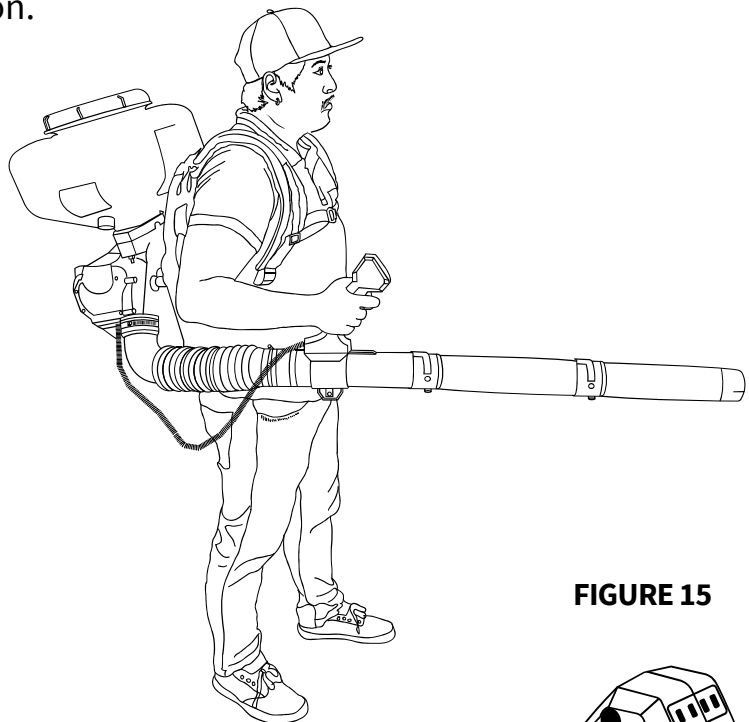

FIGURE 15
7.1.4 This tool operates with a gravity fed tank. The nozzle should always be angled downward or parallel with the ground. **FIGURE 15.**